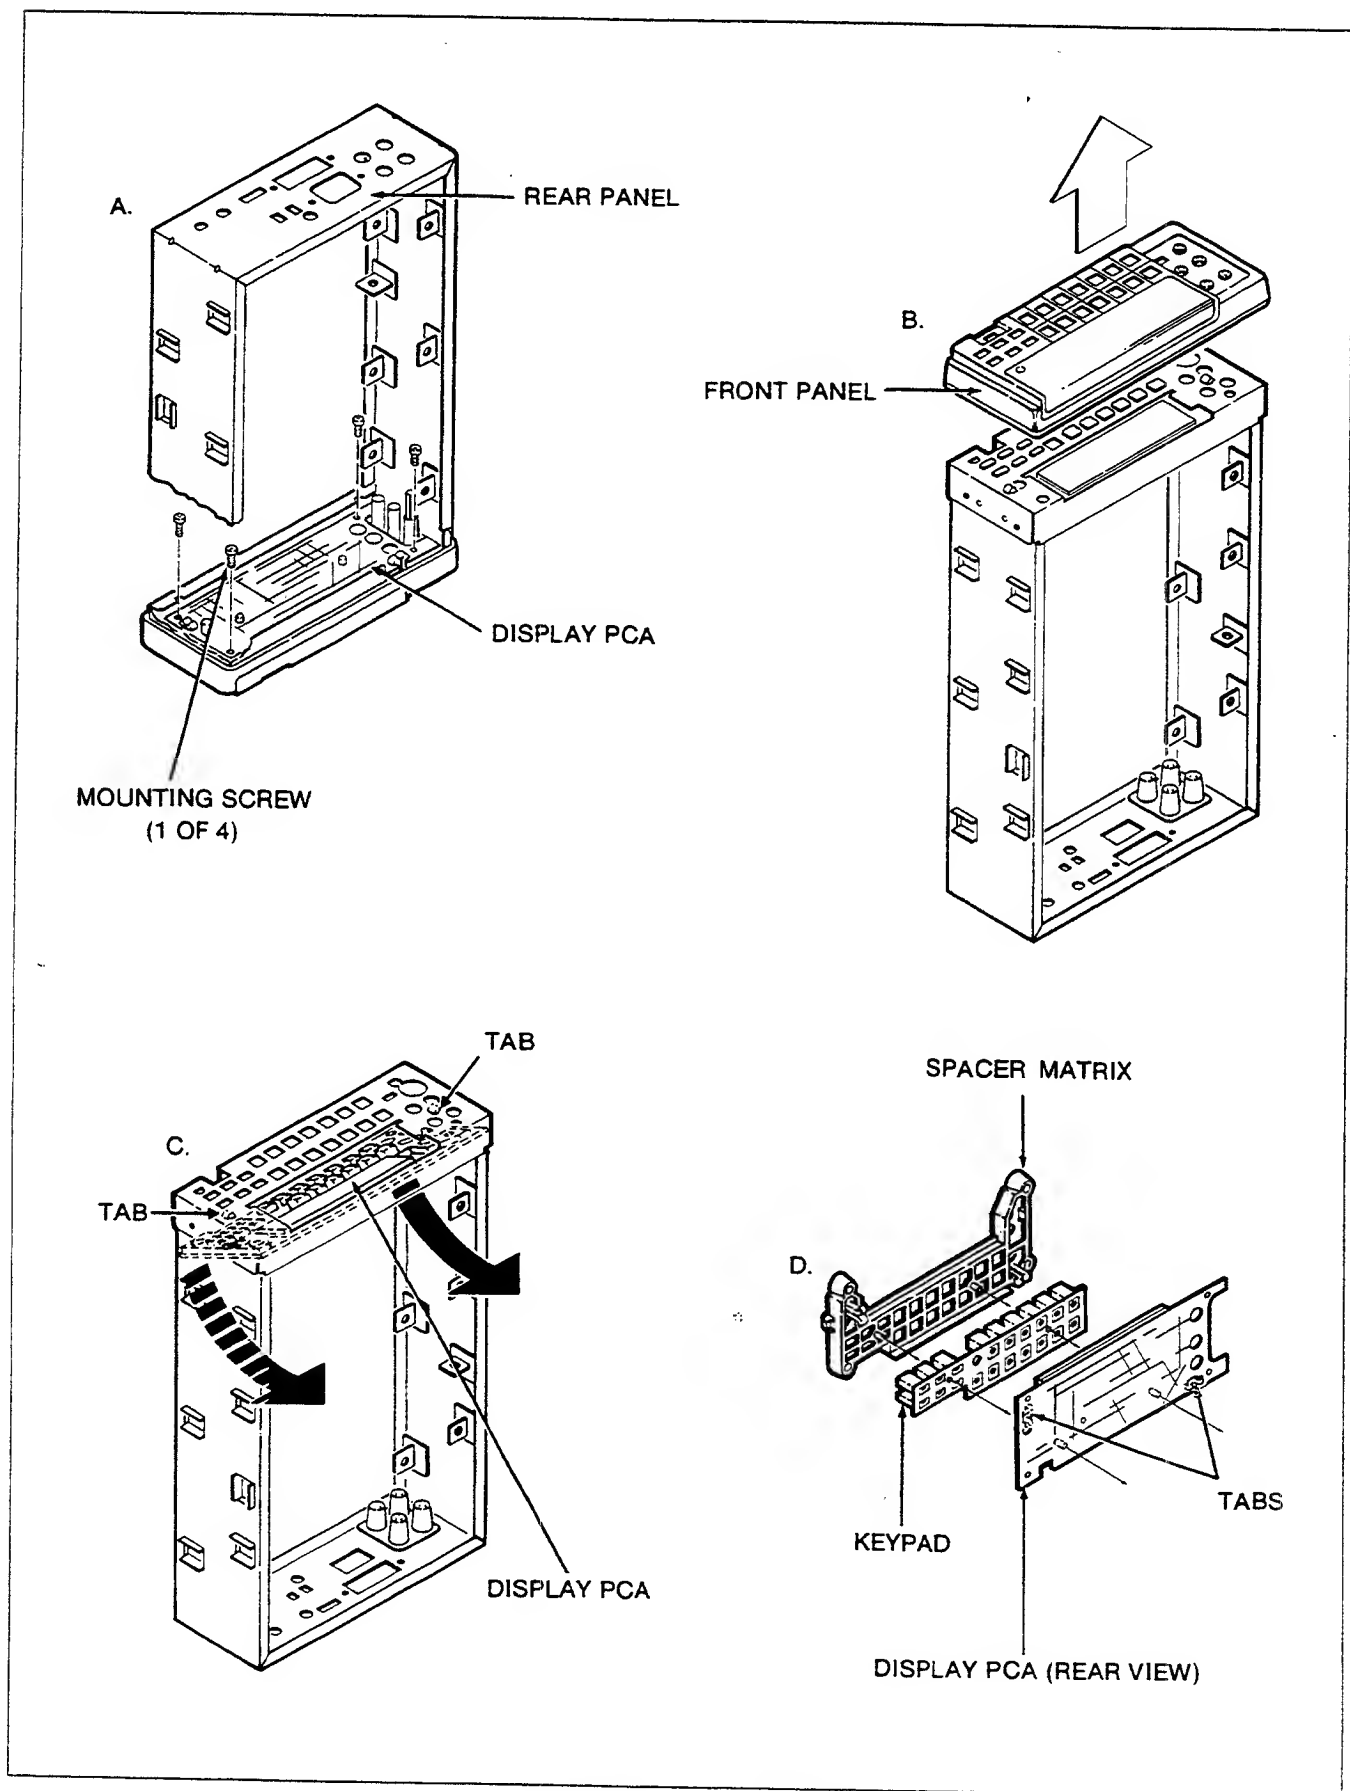

Figure 6-7. Front Panel Disassembly
1. Assemble the front panel assembly by reversing the front panel disassembly procedure (Figure 6-7). (It is easiest to lay the keypad on the Display PCA before installing the spacer matrix on the Display PCA.)